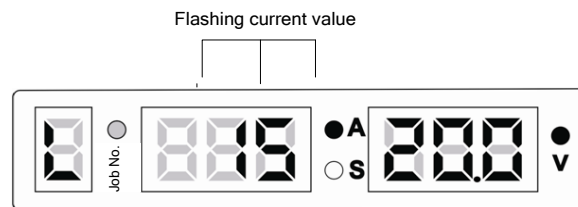

Figure 3-36 UI for locking the current adjustment range
4. On the UI for locking the current adjustment range, the middle screen flashes. See Figure 3-36. Use the knob on the control panel of the welder to set the current adjustment range and press the **LOAD**  button. The UI for locking the voltage adjustment range is displayed. The default range is  $\pm 15$  A.